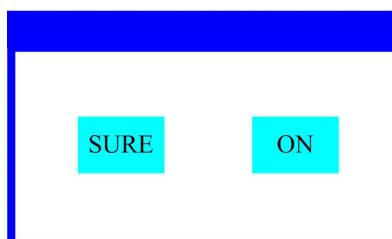

Figure 5 Dialog of confirm
- When the parameter is a key item, chick corresponding item, a dialog shown in Figure 5 will be popup ask for the confirm. Chck ‘sure’ to confirm.